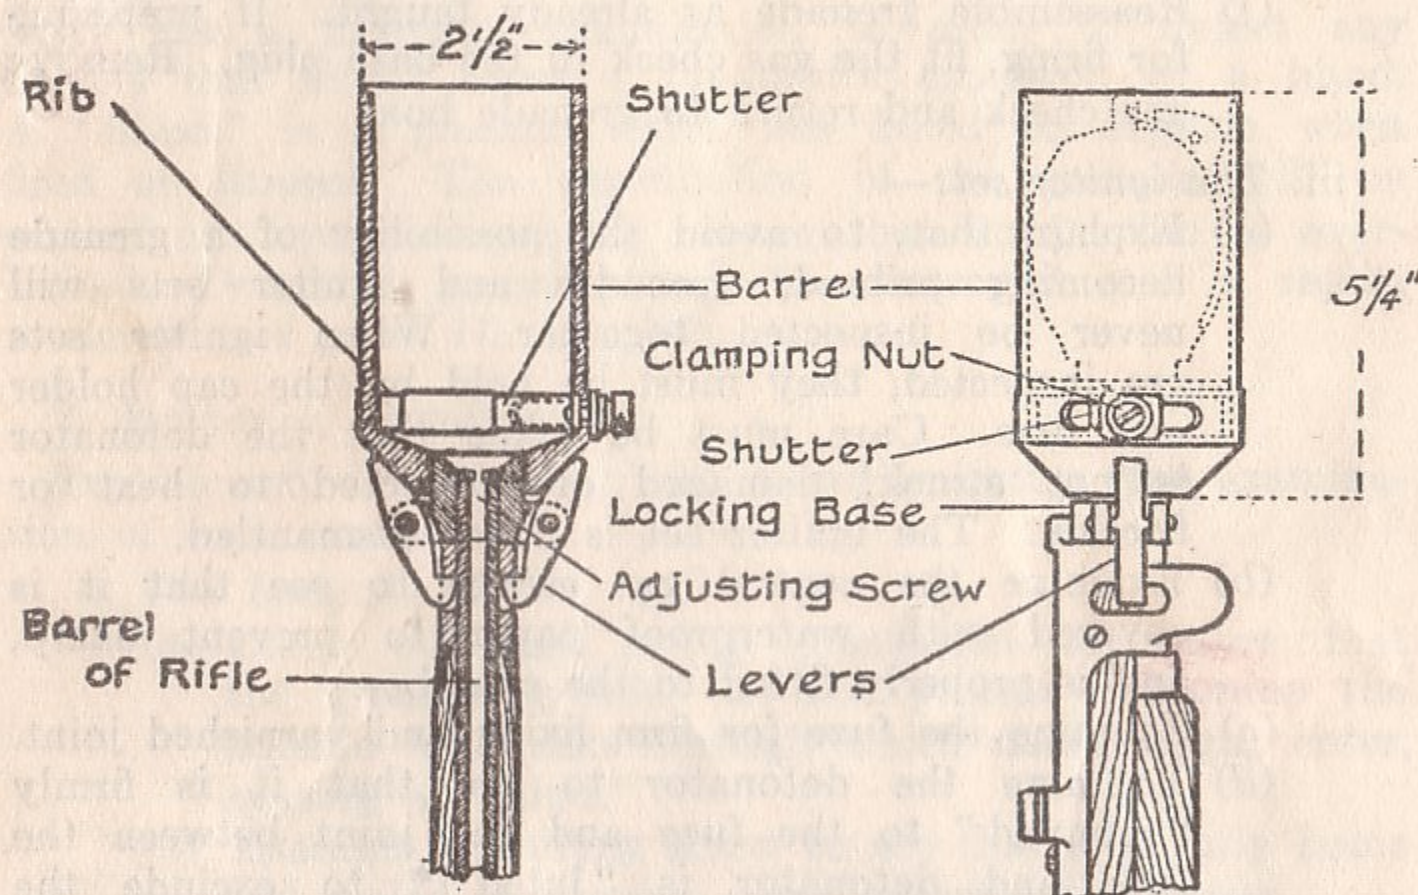

FIG. 3.—The Discharger. The grenade is shown inside the discharger by dotted lines.
2. *Description.*—Explain (see Fig. 3):—